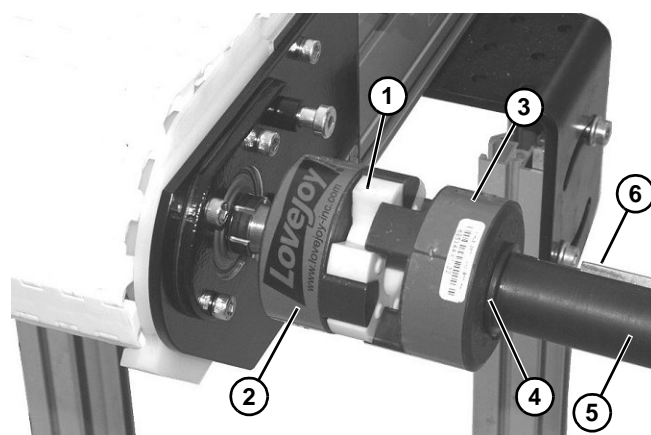

Figure 4
2. Install spider bushing (**Figure 4, item 1**) in three jaw coupling (**Figure 4, item 2**).
3. Verify that three jaw coupling half (**Figure 4, item 3**) is flush with and against flange (**Figure 4, item 4**) of shaft (**Figure 4, item 5**). Loosen set screw on coupling half and push onto shaft until flush, if necessary.
4. Making sure key (**Figure 4, item 6**) is installed in slot in gear reducer output shaft assembly (**Figure 4, item 5**), install output shaft into gearmotor assembly. Raise gearmotor assembly and install three jaw coupling end of output shaft onto three jaw coupling (**Figure 4, item 2**).